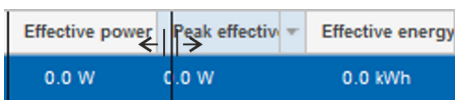

Fig. 95: Adjusting the column width
3. Move the cursor to the area between two columns and click and hold the left mouse button to adjust the width of a column (Fig. 95).